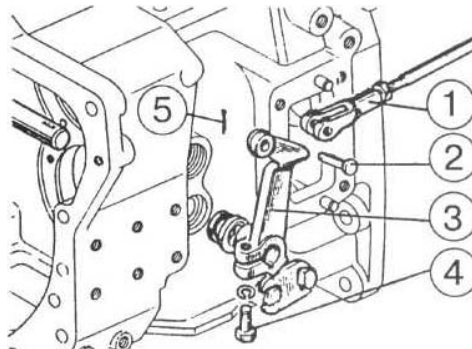

Figure 4.23
- a) unpin pin and pull out pin 2 (Figure 4.23), disconnect tie-rod 1.